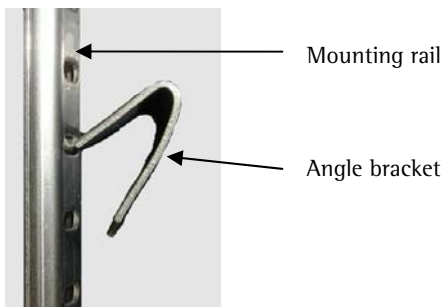

Figure 7: Installation of the angle bracket
1. First attach the upper hook of the angle bracket in the recess of the mounting rail at the desired height (see figure 7).